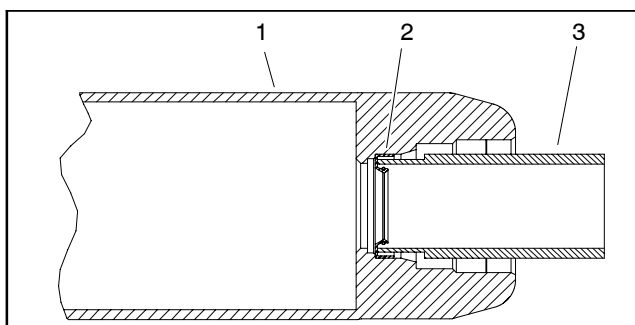

Figure 20
1. Install inner seals into roller tube making sure that seal lip (and garter spring) faces end of tube. Use inner seal tool (see Special Tools) and soft face hammer to fully seat seals against roller shoulder (Fig. 20). Apply a small amount of grease around the lip of both inner seals after installation.